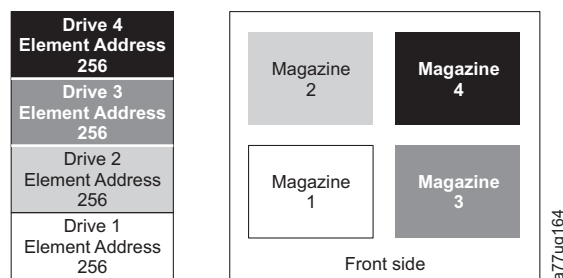

Figure 164. Configuration of a four - partition system
- Logical Library 1: Slot1 through 23 4096 (0x1000) through 4118 (0x1016) as shown in Figure 164 on page 207
When configured with four logical partitions, the Element Address assignments will be as follows: DTE assignments will be as shown in Figure 164.